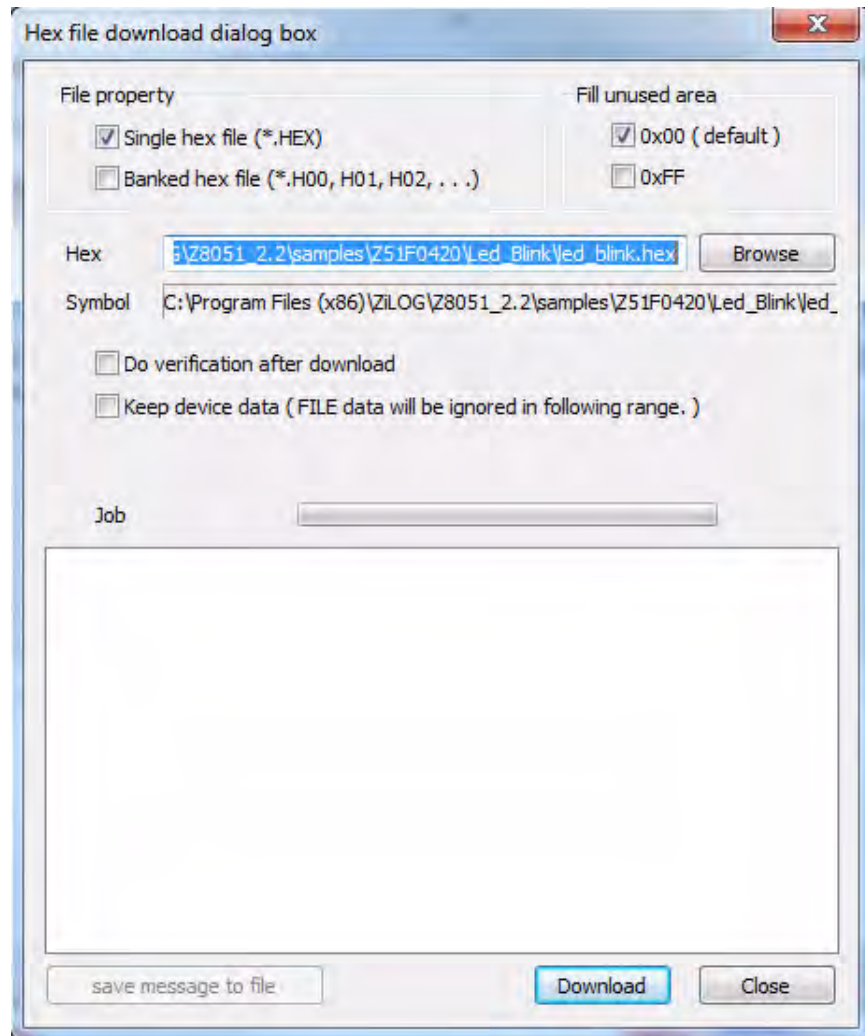

Figure 70. The Hex File Download Dialog
2. From the Emulation menu, select **Load Hex**. The Hex File Download dialog box appears, as shown in Figure 70.